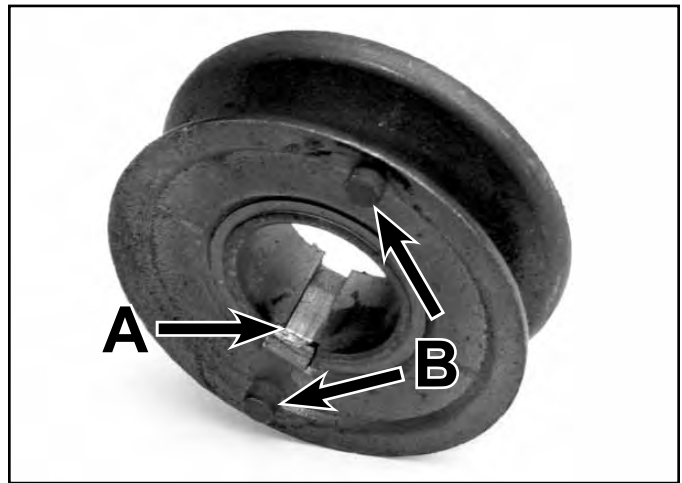

Fig 225
9. Inspect the pulley. One end of the keyway is blocked off. If that is broken, the pulley will bounce up and down during use and make a rattling noise (Fig. 225). There are two bumps on the outside of the pulley that are intended to engage two holes in the flywheel. If this wall is broken out or the bumps on the pulley are damaged, the pulley must be replaced. Usually this is caused by an error in assembly. Refer to "Idler Arm System Assembly (Recycler/Rear Bagger)" on page 6-25 for instructions to avoid this.